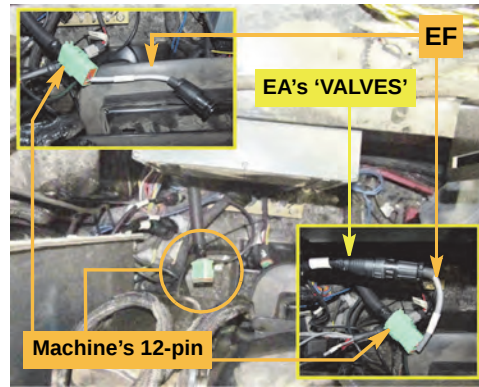

Figure 3a: Machine harness to ECU connection
- a. Locate the machine's unconnected 12-pin connector in the right rear corner of the cab (rearward of the ECU installation—circled in Figure 3a). Install adapter cable **EF** between that connector (Figure 3a top/left inset) and **EA's** branch cable labeled 'VALVES' (Figure 3a bottom/right inset).